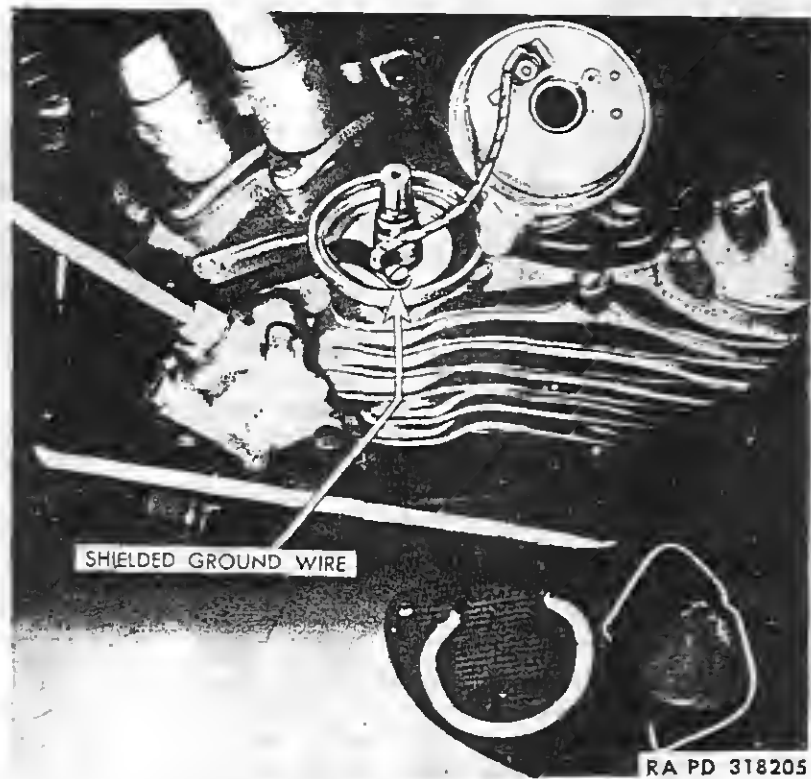

Figure 52—Shielding of Coil to Timer Wire Grounded on Base
(8) Fully advance spark lever (push inward toward engine) and observe how closely mark on breaker cam lines up with breaker lever fiber. If mark does not line up, lift timer base and turn shaft gear so its engagement with its driving gear is changed one tooth. Check again according to breaker cam mark and breaker lever fiber. Repeat this procedure until gear engagement is obtained which closely aligns cam mark and breaker lever fiber.
(9) See that timer base is turned so that timer to coil wire is toward rear of engine.
(10) Install timer base screws and lock washers. Make sure that timer to coil wire shielding is grounded under head of screw farthest away from engine (fig. 52). Securely tighten screws.
(11) Install timer head on base and secure with ground spring and cover retainer. Be sure ground spring is in its proper place so that when cover retainer ends are fitted through holes in the timer head, they will also fit into spring locating notches. It will be necessary to press ground spring upward under timer base to engage retainer ends in the spring notches. *NOTE: If cover retainer ends do not engage ground spring notches, spring will have no tension and timer head will be loose on its base.* Circuit breaker points and condenser are electrically grounded through timer base, and ground spring holds the head and base in close contact, thus assuring a good ground.
(12) Connect spark control wire and timer lever and adjust (par. 88).
(13) Engine is now timed according to original factory setting, providing mark on side of timer head and hole in head adjusting band are still in alignment, and circuit breaker point gap is 0.022 inch. Even though all ignition timing marks are in perfect alignment, as outlined in the foregoing instructions, it is advisable to accurately check ignition timing (step d following).
(8) With ignition timing correct, front cylinder piston is $\frac{9}{32}$ inch before top dead center, on compression stroke, when circuit breaker points just start to open. At this point spark occurs, igniting front cylinder fuel charge.
(9) Install flywheel inspection hole plug in left crankcase.
87. COIL TO TIMER WIRE (figs. 52 and 53).
(1) Disconnect battery negative ground wire at frame connection.
(2) Remove the two bolts which secure upper end of air cleaner bracket to frame tube. Swing air cleaner and bracket outward and forward to gain access to spark coil rear terminal.
(3) Disconnect coil to timer wire terminal from coil rear connection. Disconnect wire shielding from coil rear ground connection.
(4) Refer to paragraph 86 b (1) to (4) for timer head removal.
(5) Remove timer base mounting screw which secures wire shielding (fig. 52).
(6) Note position of coil to timer wire inside of timer head; then remove nut washer connecting wire to insulated contact stud.
(7) Work old wire and loom out of timer head hole and free from vehicle.
(8) On earlier models, the coil to timer wire was soldered to end of insulated stud. Removal of stud is necessary to remove this wire, or replace it with a shielded wire. Note location of stud insulations on inside and outside of timer head, for correct installation w/ reassembling.
(1) Pass end of wire, shield terminal, and loom up through hole in timer base.
(2) Ground the wire shield terminal under head of timer base mounting screw (fig. 52).
(3) Connect wire end terminal to insulated stud so that wire leads away from stud in direction shown (fig. 52).
(4) Pass coil to timer wire up alongside and to rear of frame saddle post tube to reach rear of spark coil.